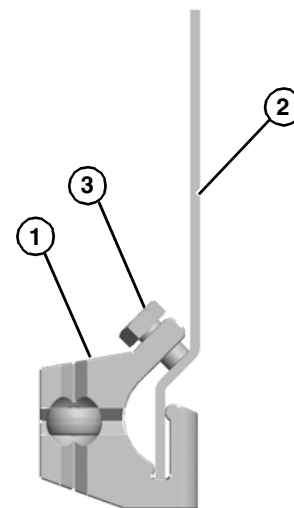

**Figure 42**
2. Slide the return shaft (Figure 42, item 1) up and through the large slot (Figure 42, item 2) in the frame (picture shown without the belt or wear strips).
3. Push up on the return shaft (Figure 42, item 1) and slide the notched end of the shaft through the small slot on the opposite side of the frame.